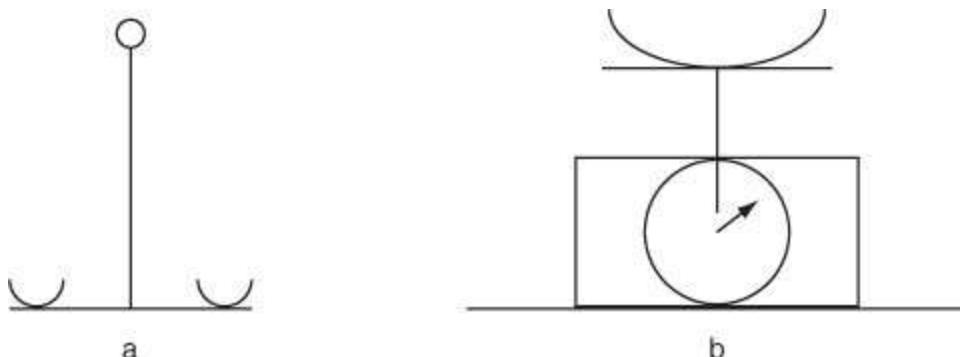

Figure P2.2.7
- **2.2.7. Two scales are shown in Figure P2.2.7, a balance (a) and a spring scale (b). In the balance, calibrated weights are placed in one pan to balance the object to be weighed in the other pan. In the spring scale, the object to be weighed is placed on the pan and a spring is compressed that moves a dial on a scale in kilograms.